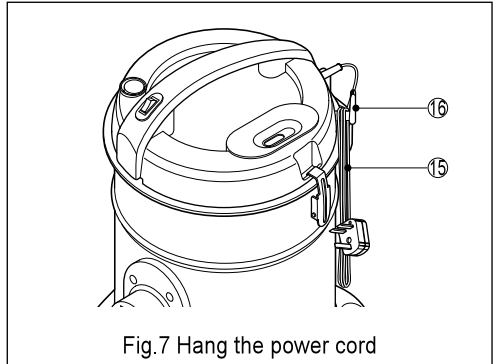

Fig.7 Hang the power cord
- Refer to Fig.7, wind the power cord ⑮ and hang it on the hanger ⑯.